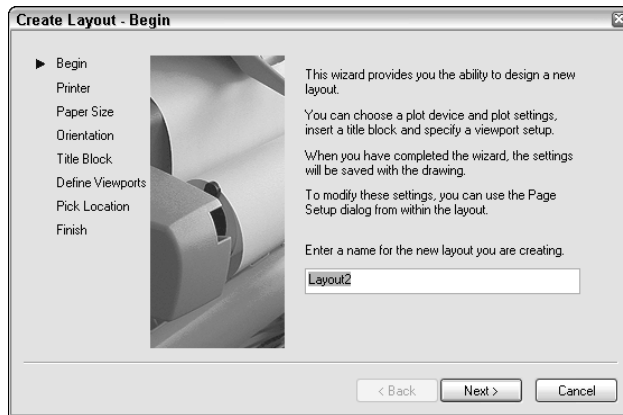

Figure 17-2: The first screen of the Layout Wizard
1. Choose Tools ⇨ Wizards ⇨ Create Layout. You see the wizard screen shown in Figure 17-2, where you name the layout. This name will appear on the layout tab at the bottom of the drawing area.